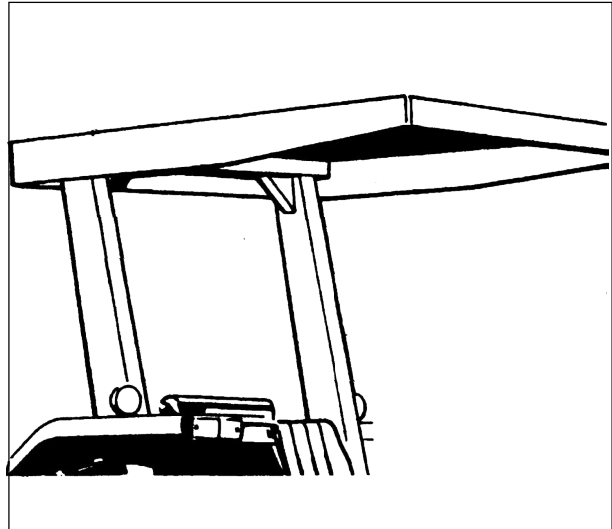

Fig. 10
- Safety frame with FOPS (Falling Object Protective Structure), protective enclosure or protective screens (Fig. 10). Remember FOPS are protection from light falling objects and are not intended as protection from large falling objects such as large round bales or fence rails.